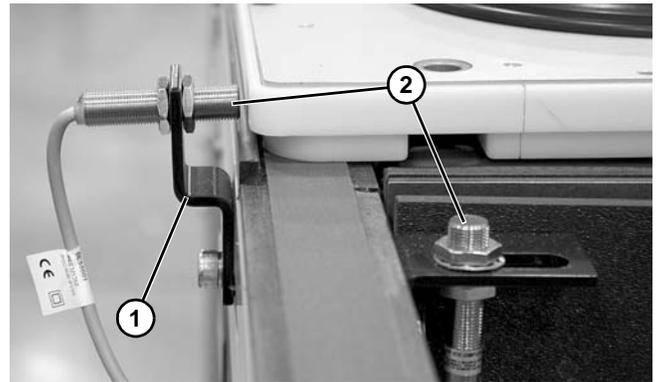

Figure 42
The Lift and Transfer unit only allows for sensing at the sides of the pallet. Sensing can be done from under the pallet before unit, though a delay will need to be programmed in before allowing the lift to operate. Dorners side mount sensor brackets (Figure 42, item 1) can be used to mount a 12 mm barrel proximity sensor (Figure 42, item 2). See “Optional Sensors” on page 8.